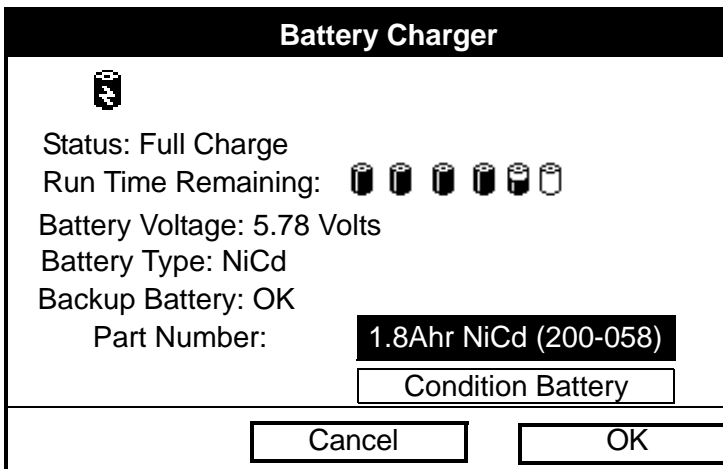

Figure 78: Battery Charger Window
1. From the Meter menu, scroll to the Battery entry and press [ENTER]. The Battery Charger window opens, as shown in Figure 78 below.